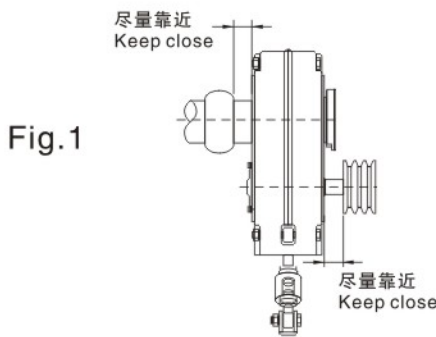

Fig. 1
- 1、输入轴上的皮带轮安装时尽可能的靠近减速机，安装减速机到被驱动机时也应该使减速机尽可能的靠近被驱动机，若安装得太远会使减速机的轴承承受较大的径向力，造成轴承的过早损坏（如图1所示）。
1. Install pulley on gearbox input shaft as close to the reducer possible, and mount reducer on driven shaft as close to bearing as practical (see figure 1). Failure to do this will cause excess loads in the input shaft bearings and output bearings and could cause their premature failure.